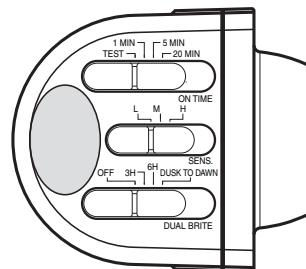

Figure 7
- Slide the sensitivity (SENS) switch to the "LO" position, the ON-TIME switch to the TEST position, and the DUALBRITE switch to the OFF position (see Figure 7).